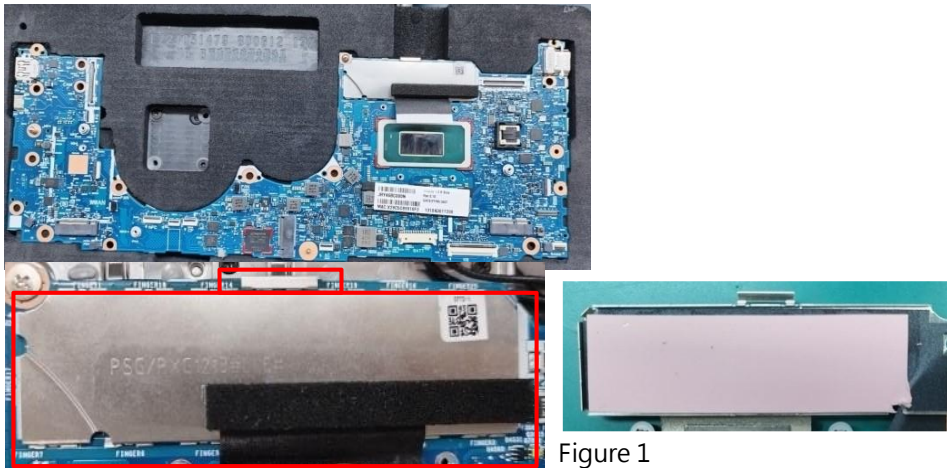

Figure 1
1. Disassemble DDR Shielding Can and remove pad (Fig1)